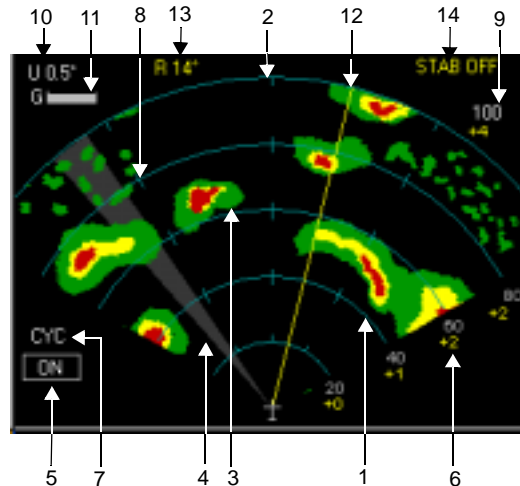

Figure 3: Radar Data Page
NOTE: Figure 3 displays as many features as possible. Your particular radar may not support all these features.
4. **Scan Indicator (Beam View™)** - The current position of the scan is shown by BeamView, a highlighted arc (as shown in Figure 3). Scan width of the arc is set at the Settings menu by your installer based on your antenna size. BeamView can be turned off and a small